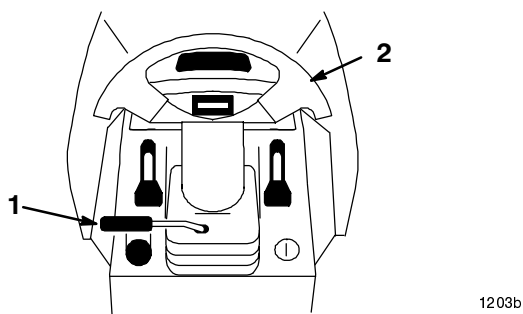

Figure 14
1. Lift the tilt lever to release the lock (Fig. 14).